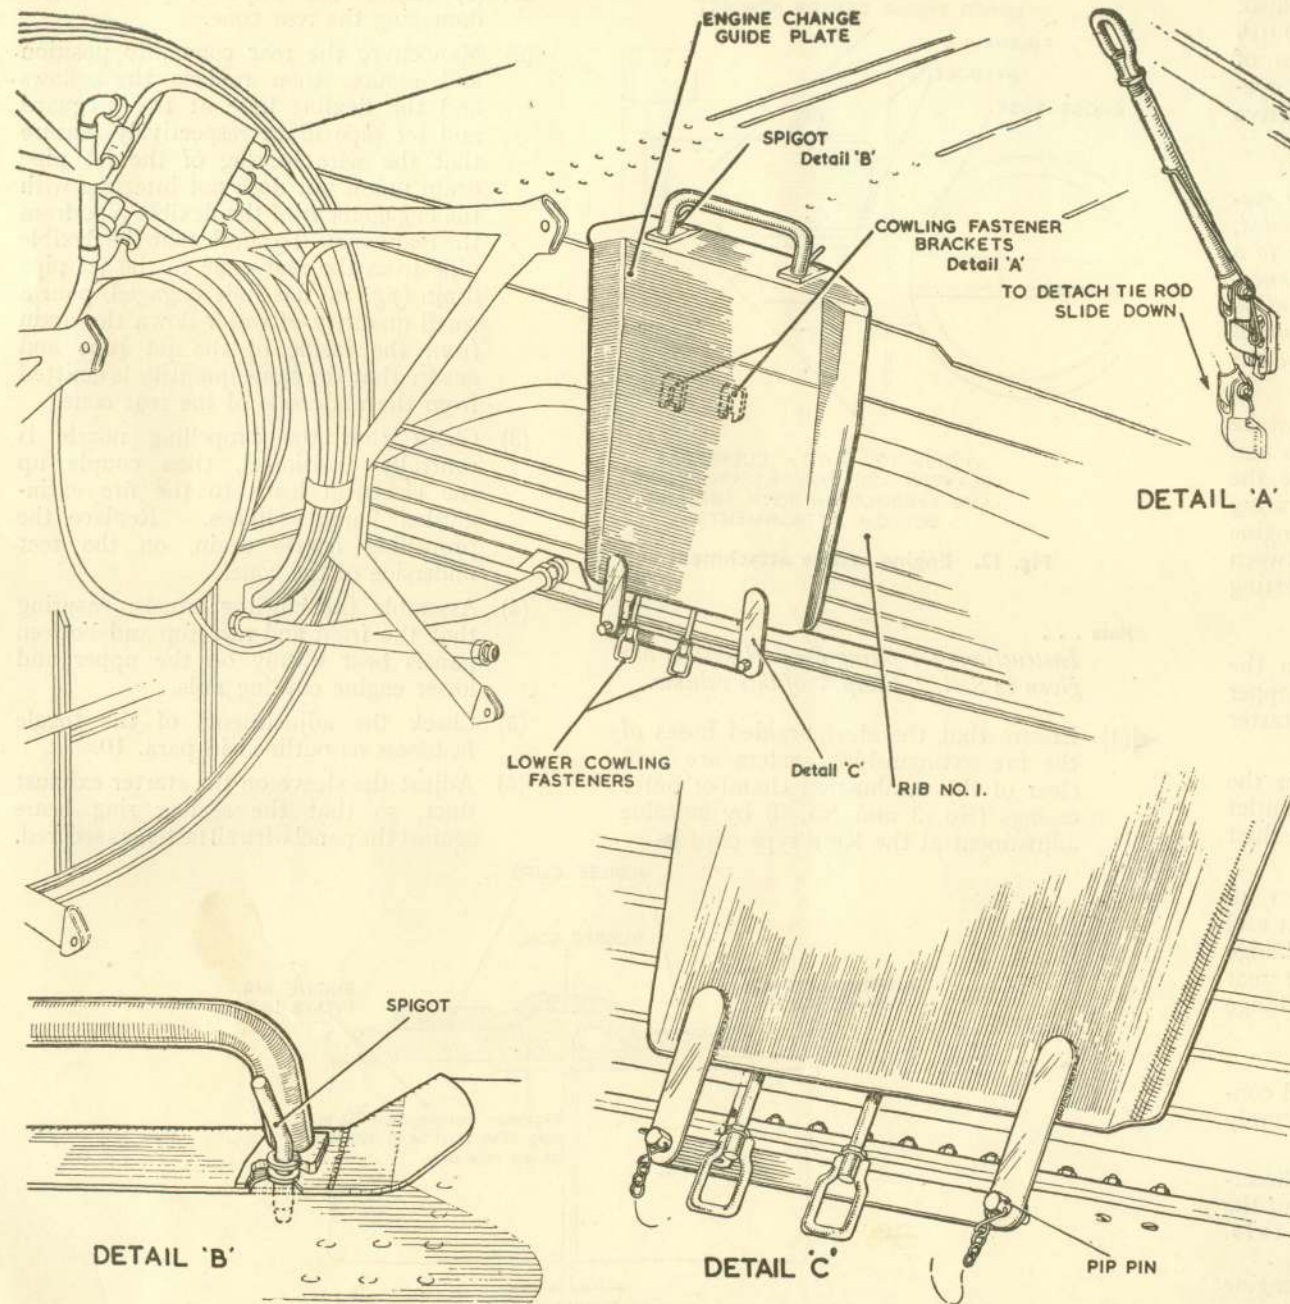

Fig. 11. Engine change guide plate
- (2) Remove the arresting hook (*Sect. 3, Chap. 5*), withdraw the bolts securing the rear cone to the main planes and remove the cone fairing.
- (3) Remove the four rear upper cowling panel tie-rods and hinge brackets from rib No. 1 on each main plane. Fit the engine guide plates (*item I.4 and I.5, Sect. 2, Chap. 4*) into position, dropping the two floating spigots on each guard into their respective attachment points on the top surface of the main plane. Place the bar into position, and secure "pip-pins" into place (*fig. 11*).